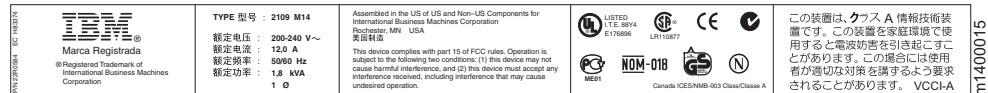

Figure 1. Safety certification label on the Model M14
1. Verify that the safety certification label shown in Figure 1 is installed on the switch.